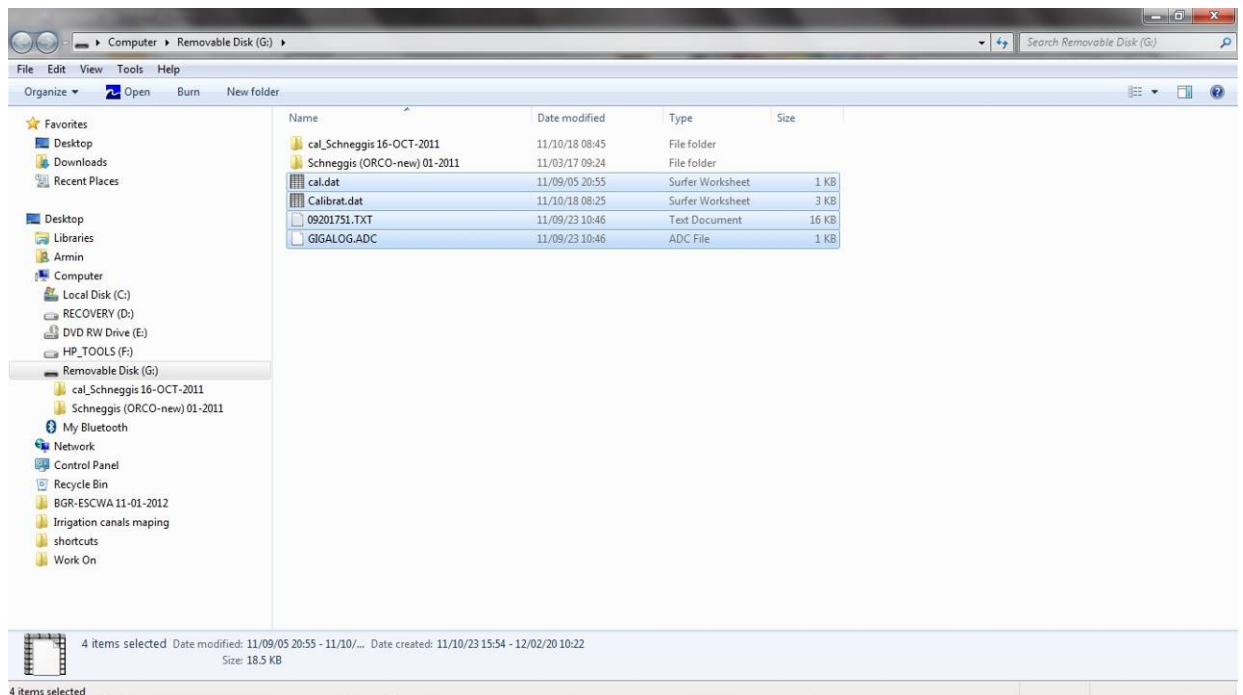
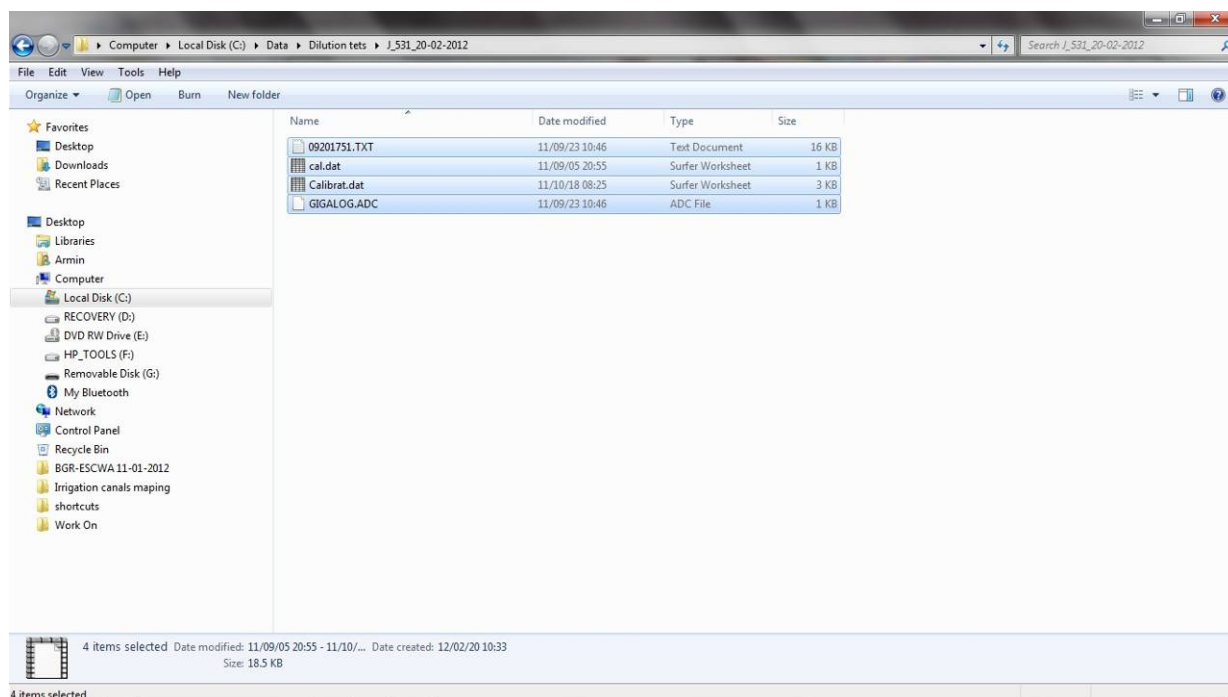

Figure 3: Contents of CF Card
Figure 4: Copy Files from Logger to Notebook
- S9 Copy from the CF card (Figure 3) the files to the subdirectory (Figure 4) which you created in S5: